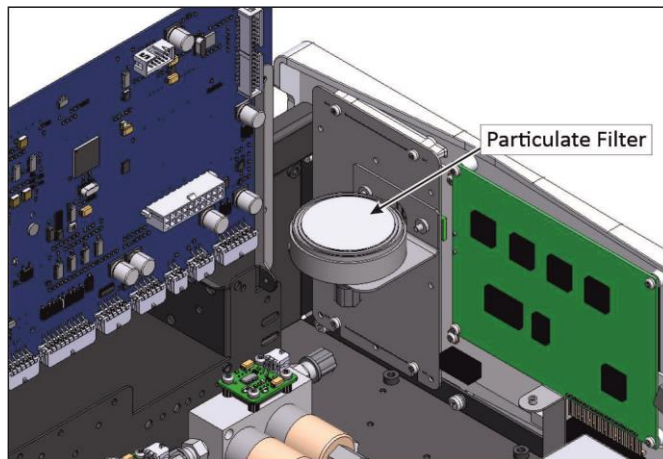

Figure 120 – Particulate Filter
6. Refer to Figure 120 – Particulate Filter. Remove the old particulate filter.